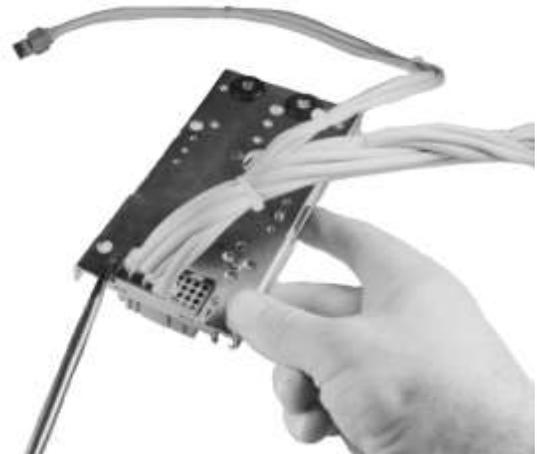

Figure 13. Locking tabs on mounting plate
5. While holding the adapter bracket and connector assembly firmly in place against the mounting plate, bend the two locking tabs on the mounting plate into the mating notches on the adapter bracket using a screwdriver, as shown in Figure 13.